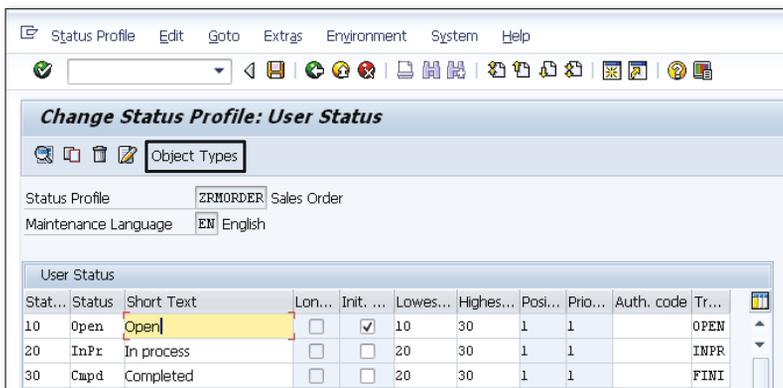
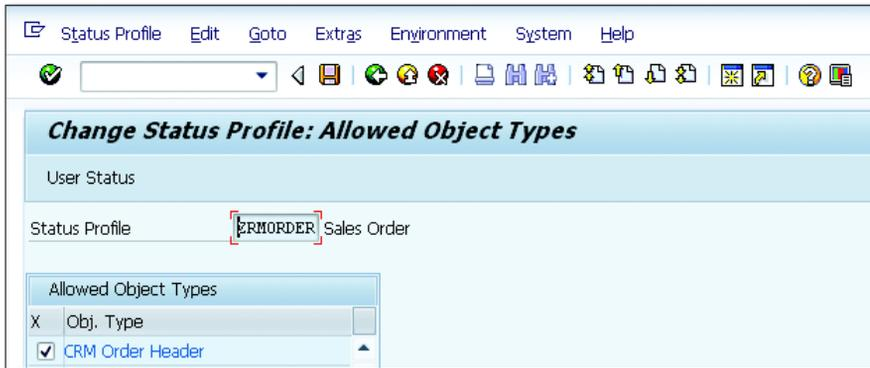

Figure 4.78 Object Types Button
Figure 4.79 Allowed Object Type for the Status Profile
2. Click on the OBJECT TYPES button to activate the allowed object type for the user status profile, as shown in Figure 4.78 and Figure 4.79.